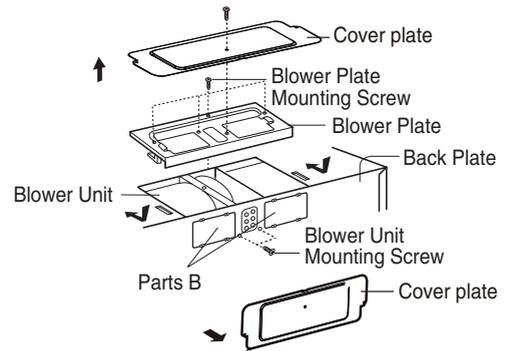

Figure 20
1. Remove one cover plate mounting screw and cover plate. Remove one or several blower plate mounting screw(s) and the blower plate. Remove the cover plate and one or two blower unit mounting screw(s). See Figure 20.